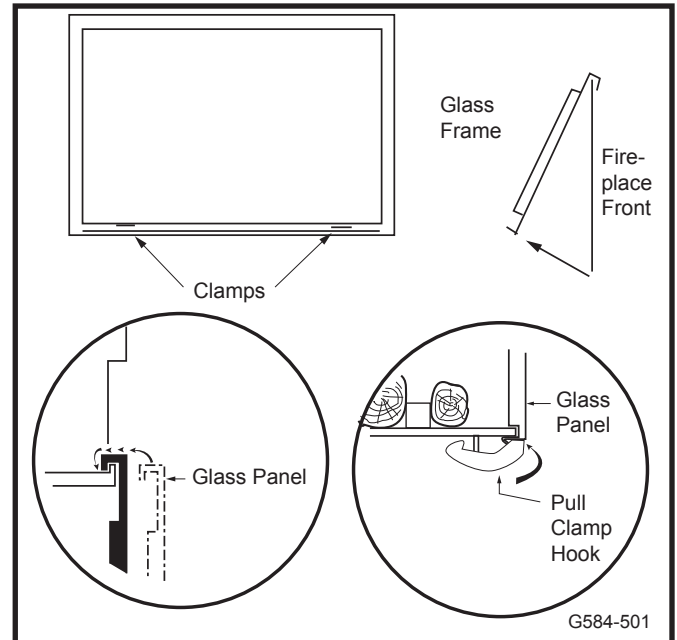

Fig. 38 Window frame assembly removal.
4. Rotate the two clamps securing the lower edge of the frame by pulling out on the handles. (Fig. 38)